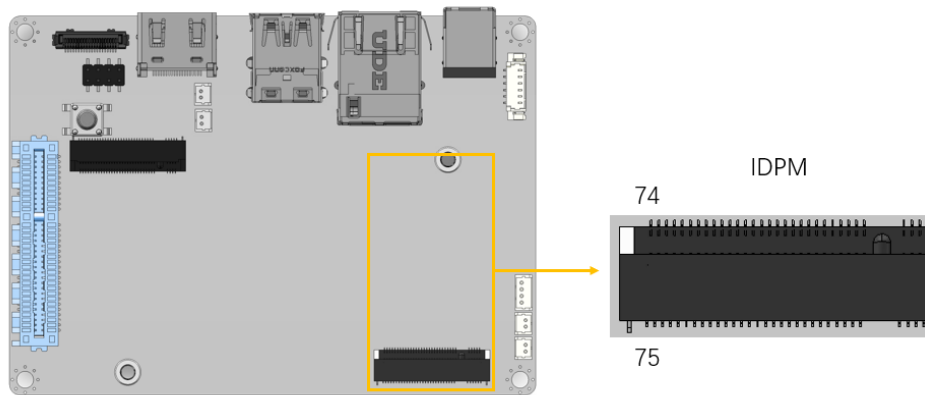

Figure 3-9: iDPM Slot Location
- CN Location:** See **Figure 3-9**